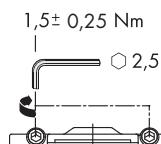

Fig. 3
- ③ Insert top hinge block (4/5) into the frame groove and position according to measurements (see Fig. 1) and clamp using grub screws without any ends protruding (see Fig. 3) (torque 1.5 ± 0.25 Nm).